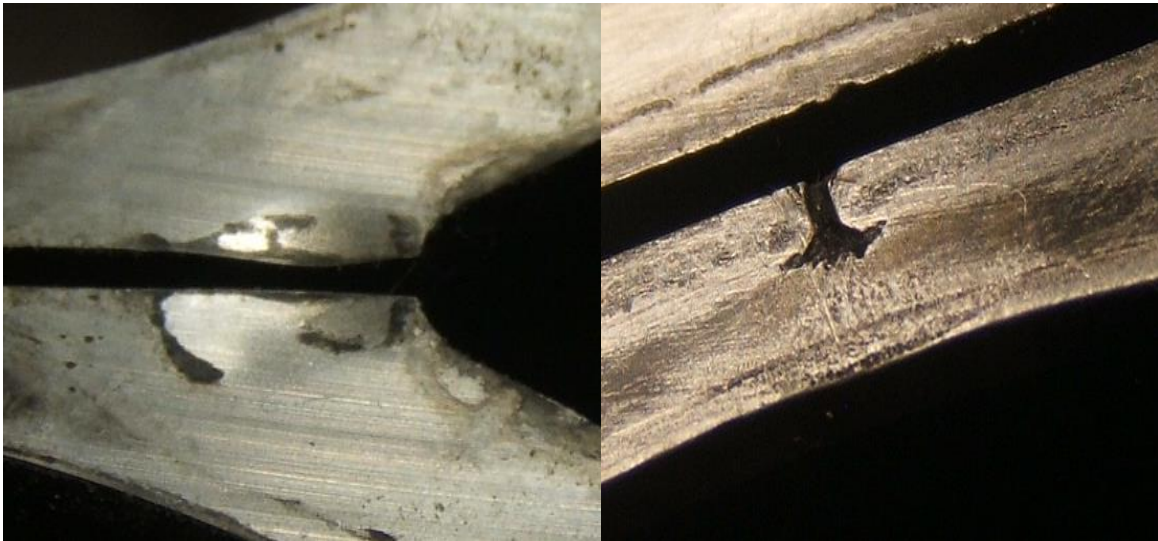

Figure 1
- Inspect the cylinder deck surface for dents or impressions. Figure 1.